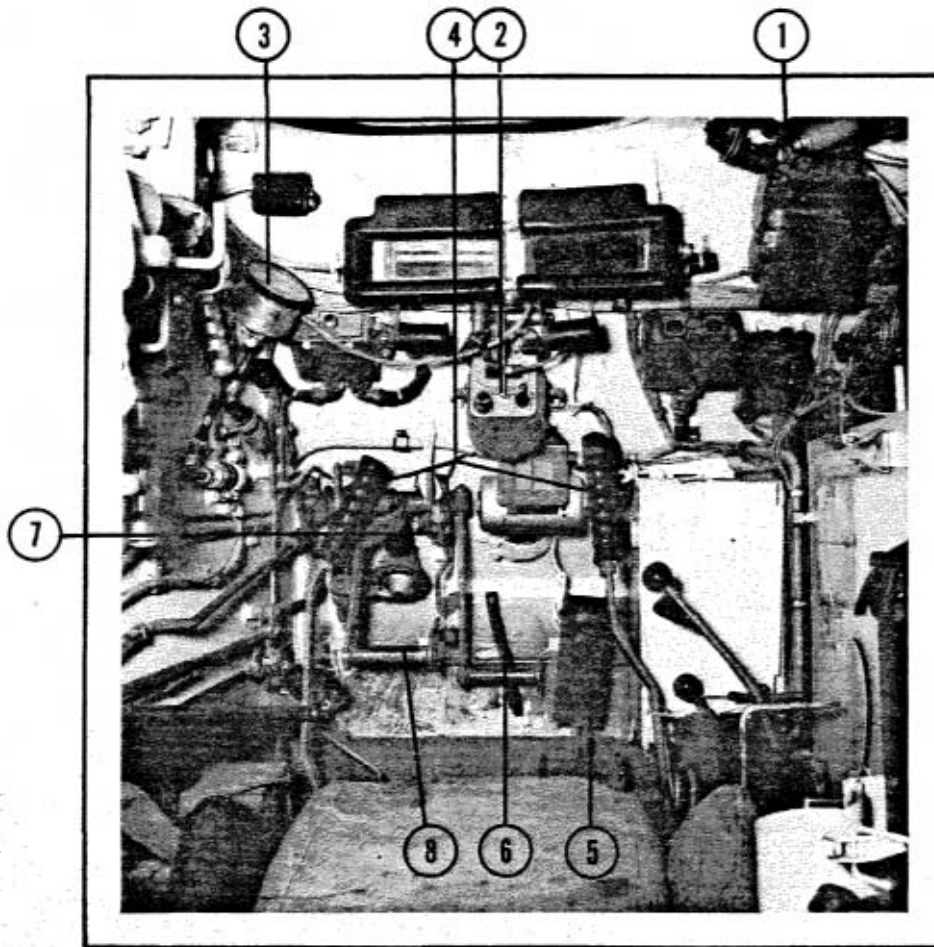

FIG. 2-5. DRIVER'S COMPARTMENT
2-9 GYRO COMPASS (Fig. 2-5)
2-13 SPEEDOMETER (Fig. 2-5)
2-15 STEERING LATERALS (Fig. 2-5)
2-16 ACCELERATOR PEDAL (Fig. 2-5)
2-17 BRAKE PEDAL (Fig. 2-5)
2-18 PARKING BRAKES (Fig. 2-5)
2-19 CLUTCH PEDAL (Fig 2-5)
2-20 GEAR SHIFT LEVER (Fig. 2-5)
d. Insure that the parking brake is engaged (Fig. 2-5).